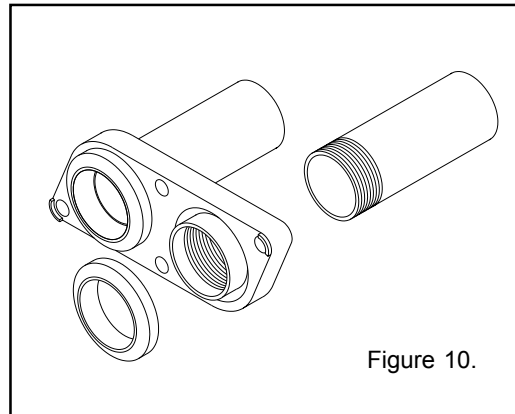

Figure 10.
1. Insert 2 in. rubber gaskets over 2 in. gasket retainer rings molded to bottom of Quick-Flange II; see Figure 10.